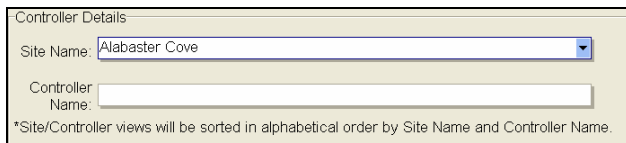

Figure 4.1.2
2. Click on the “**Site Name**” box to enter a new site name (Figure 4.1.2).